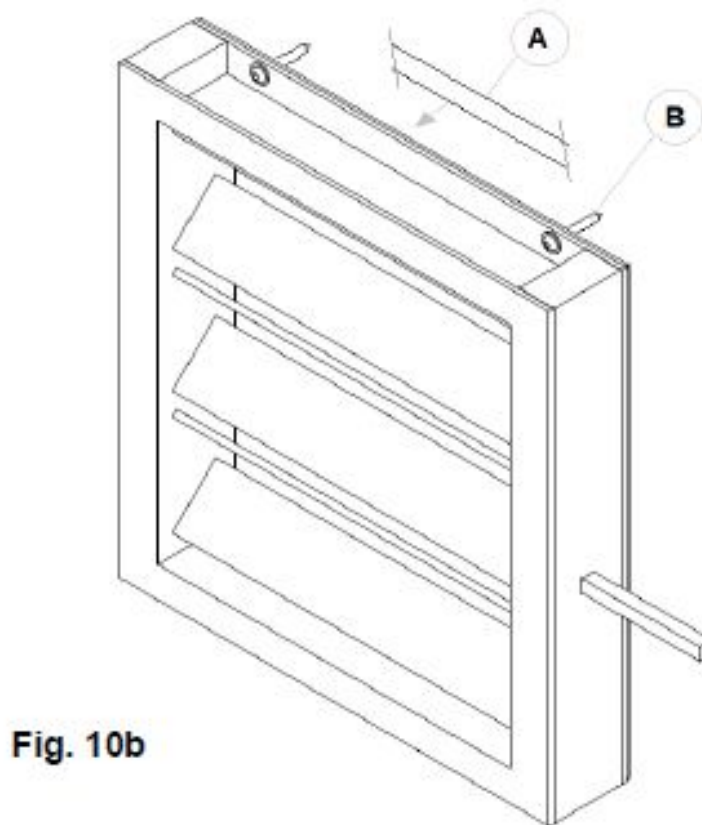

Fig. 10b
- Each damper is provided with holes on its coupling flange and supplied kit composed of adhesive perimetric gasket (A) and self-drilling screws (B), as shown on fig. 10b.